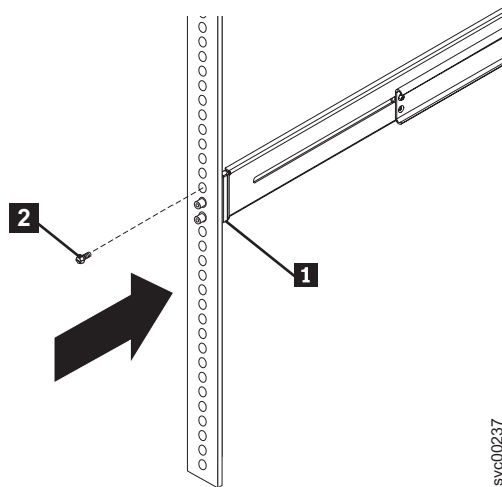

Figure 81. Attaching the slide rail to the rear mounting flange
6. Attach the slide rail to the left rear mounting flange **1** with a single screw **2**, as shown in Figure 81 on page 357. The screw should be only finger tight. Likewise, attach the other slide rail to the right rear mounting flange.